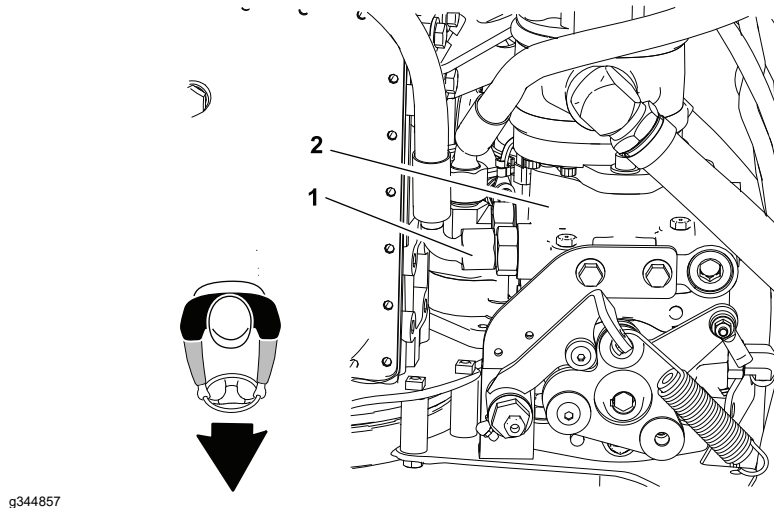

Figure 45
5. Disconnect hose from the lower hydraulic fitting on the engine side of the hydrostat (Figure 45).